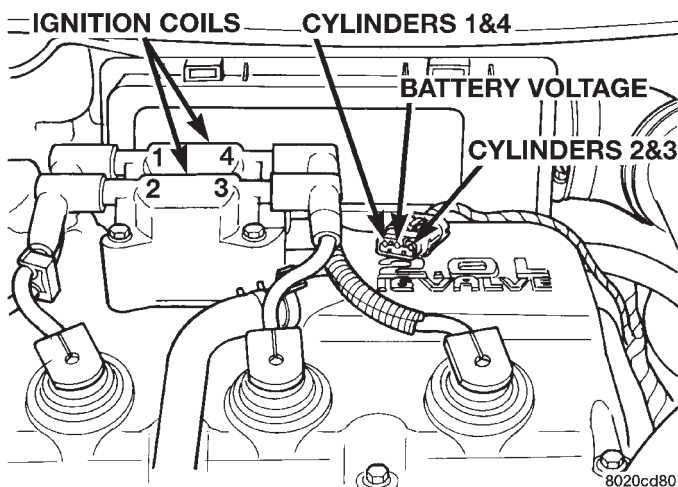

Fig. 22 Ignition Coil Engine Harness Connector
(1) Check battery voltage. Voltage should approximately 12.66 volts or higher to perform failure to start test.
(2) Disconnect the harness connector from the coil pack (Fig. 22).
(3) Connect a test light to the B+ (battery voltage) terminal of the coil electrical connector and ground. The B+ wire for the DIS coil is the center terminal. **Do not spread the terminal with the test light probe.**